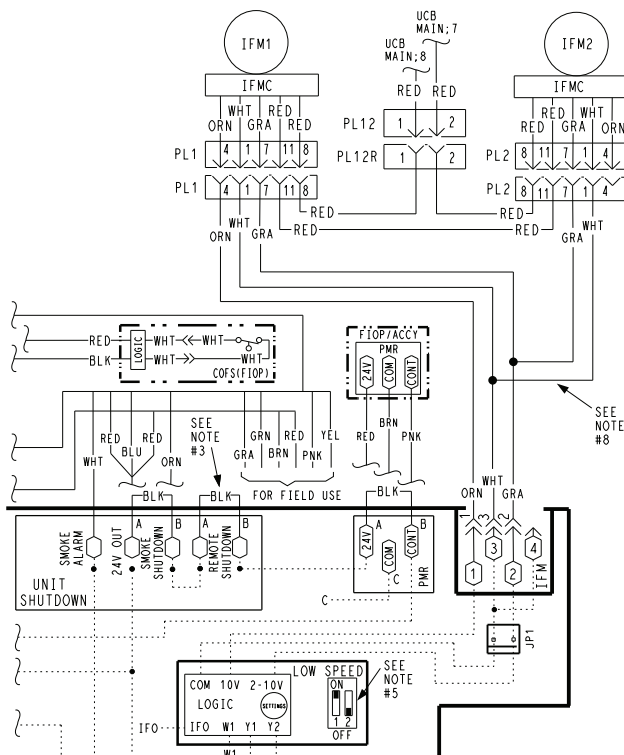

Fig. 11 — Supply Fan Control Wiring Diagram
8. Check for proper motor control voltage signal of 9.7 vdc to 10.3 vdc at IFM-1 and IFM-3 on Unit Control Board (UCB). See Fig. 11.